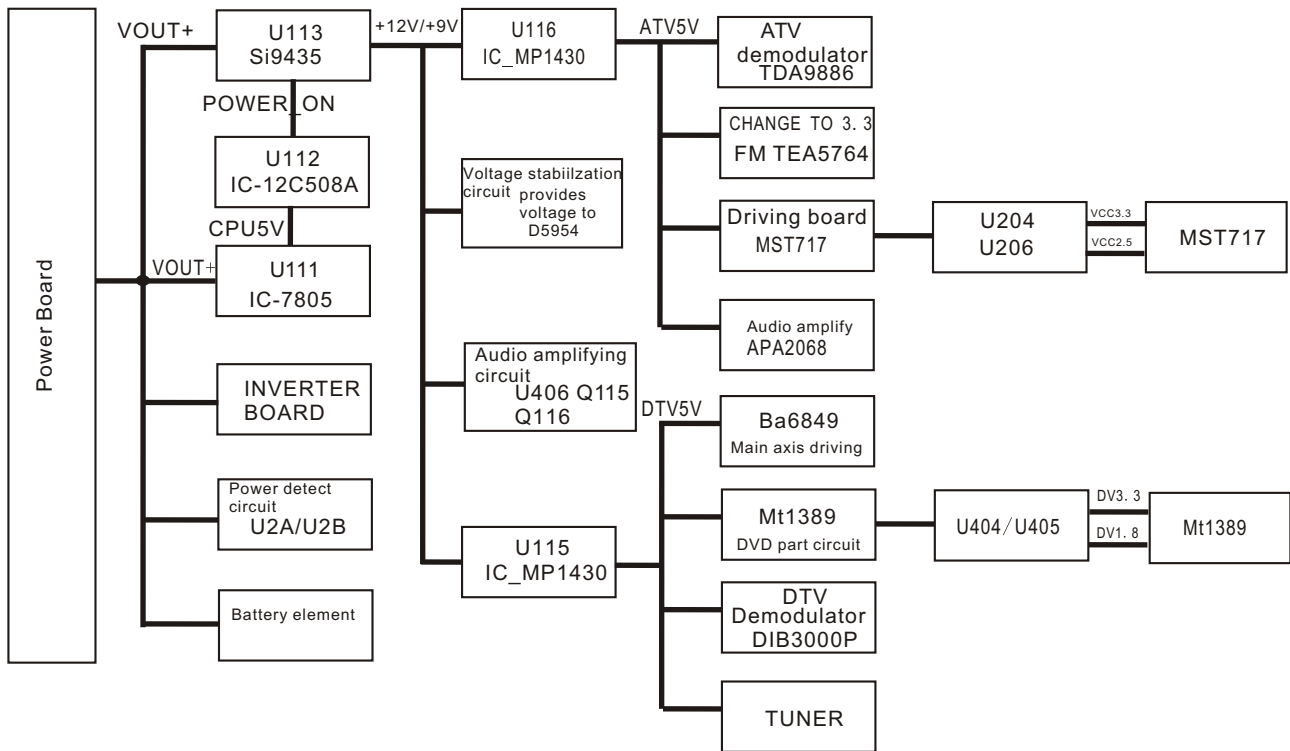

Figure 3.2.5.1 Power circuit block diagram
1. Power circuit provide stable power for each unit circuit to ensure a normal working of the player. Block diagram of power circuit is shown in figure 3.2.5.1: